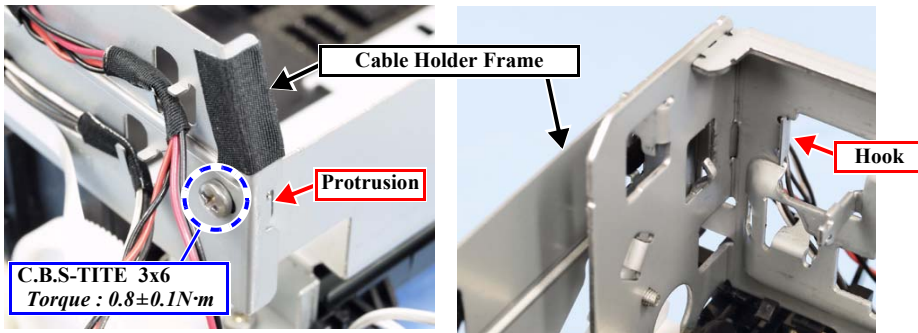

Figure 4-71. Removing the Cable Holder Frame
7. Remove the screw, and remove the Cable Holder Frame. (Fig. 4-71)
- When installing the Cable Holder Frame, ensure that it is positioned correctly in the front and back direction. (Fig. 4-71)